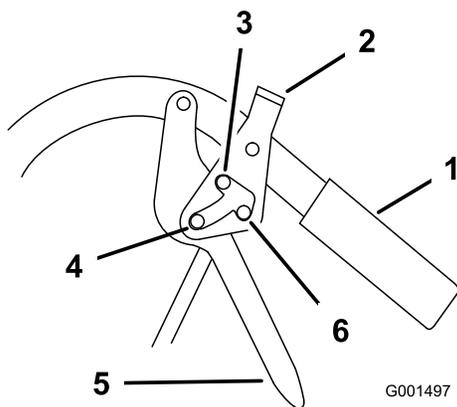

Figure 7
1. Squeeze the drive levers (Figure 7).
- Place your thumbs on the upper part of the locks and move them forward in into the **park** position (Figure 7).
- Squeeze the drive levers back (Figure 7).
- Place your thumbs on the upper part of the locks and move them rearward until they are in the **drive** position (Figure 7).
- Place your thumbs on the upper part of the locks and move them rearward into the **neutral lock** position (Figure 7).
- Place your thumbs on the upper part of the locks and move them forward until they are in the **drive** position (Figure 7).